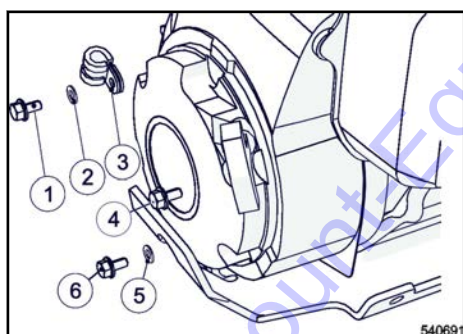

Fig. 72
Unscrew the fastening screws (1), (4) and (6) ↪ Fig. 72 and take off the recoil starter.